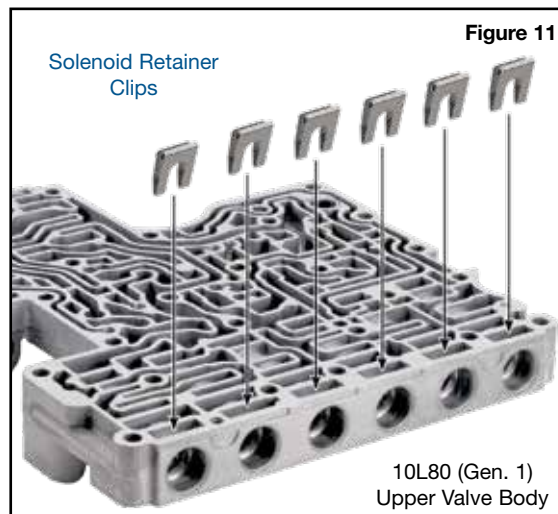

Figure 11
- Install Sonnax solenoid stabilization retainer into the gap around the shift solenoid shaft (**Figure 10**). The direction of the clip should be as shown (**Figure 11**). The long flat surface should be contacting the valve body wall inside the gap.